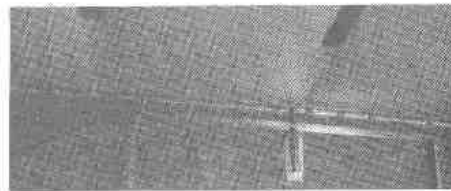

FIGURE 25
4. When top is up lock the panel in place (Fig. 25).